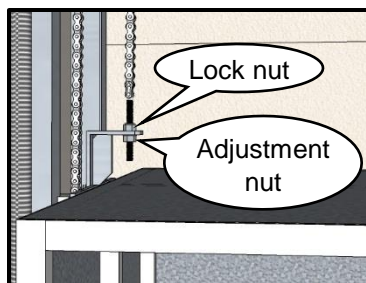

Figure 12
- 6** Using two 9/16" wrenches (15/16" for MJ-500 model), back lock nut off and then tighten down adjustment nut two revolutions and tighten lock nut up to adjustment nut securely using a blade screwdriver or needle nose pliers to hold the chain from twisting and then go back to **Step 1** to verify chain tension. (see Figure 12)